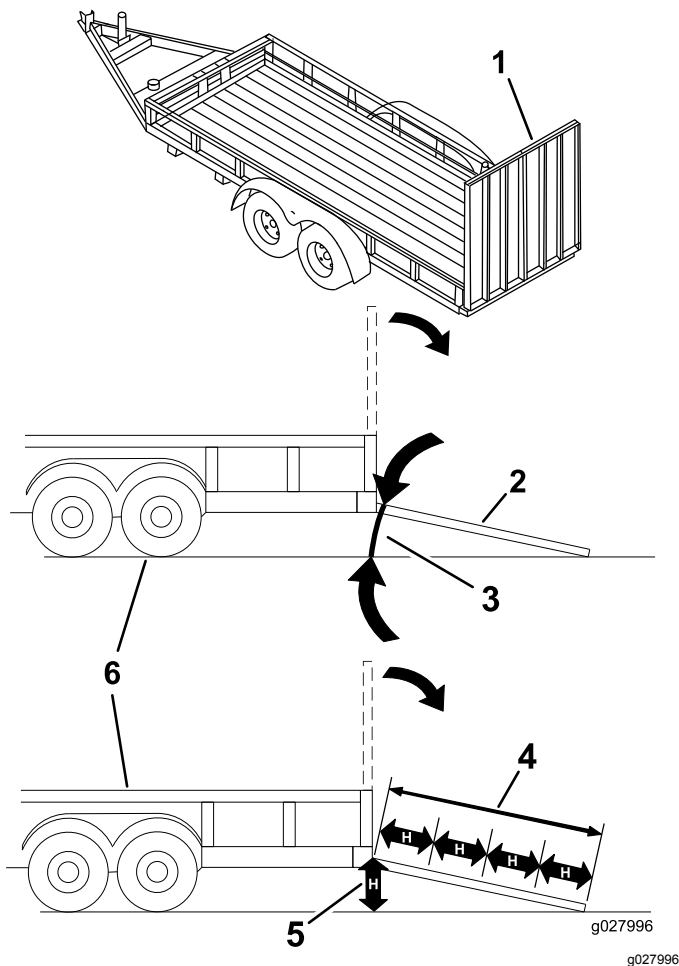

Figure 34
**Loading a machine onto a trailer or truck increases the possibility of tip-over and could cause serious injury or death (Figure 34).**